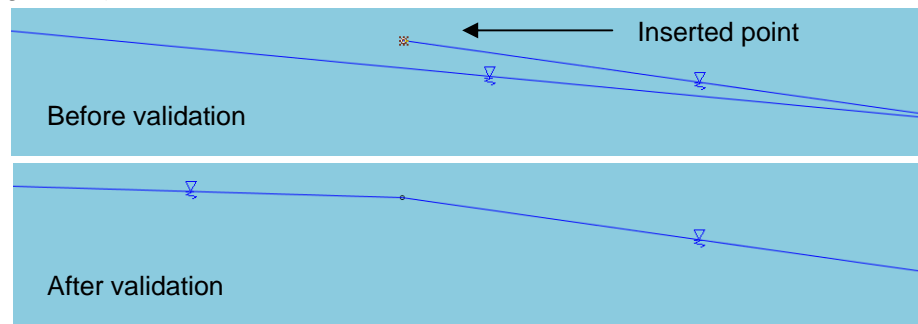

Figure 78: adding a point to an existing groundwater level
- The points of the groundwater level are automatically ordered by increasing X values when validating the dialogue box: if you define a zigzag for the groundwater level (by typing or drawing), it will automatically be “straightened” when validating the dialogue box. In the same way, if you add a point to an existing groundwater level, this point will first seem to be connected to the last point previously defined, but will be ordered after validation of the dialogue box (Figure 78).